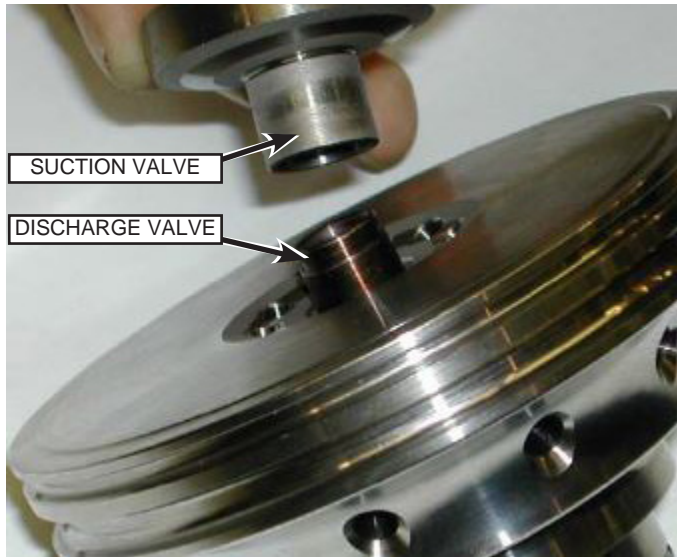

Fig. 102: Valve Removal
7. Remove the suction and discharge valves as shown in Fig. 102.